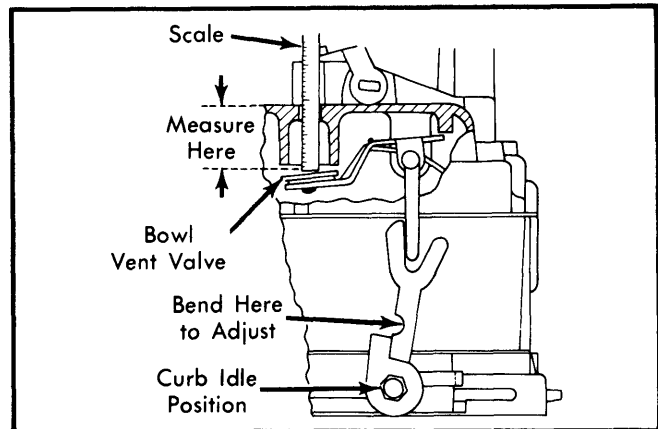

Fig. 19 Adjusting Mechanical Bowl Vent Valve (International Harvester Models Only)
- 1) Make sure curb idle speed is adjusted first. Remove the idle vent plug from the top of the fuel bowl. See Fig. 19.